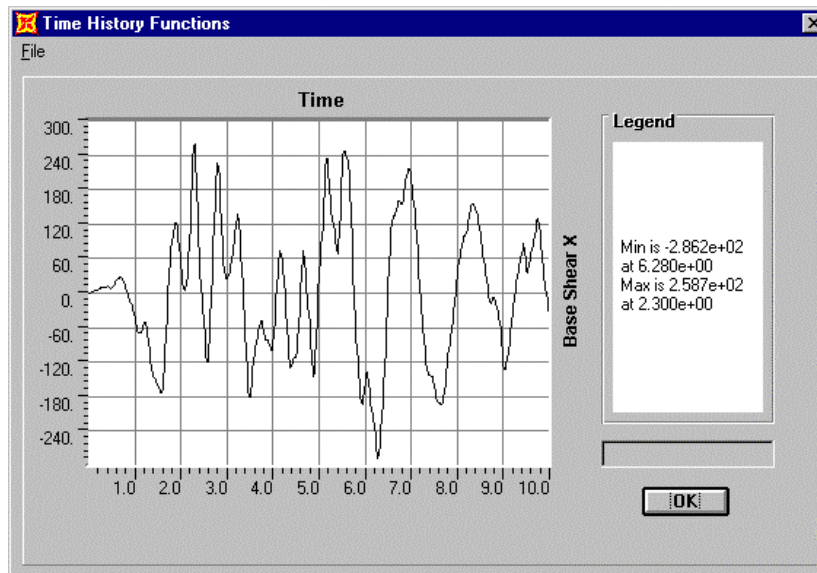

Figure 3-2 Base Shear - Kips
- ◆ Then press the DISPLAY button to see the plot of the base shear in the global X direction as a function of time. See Figure 3-2.